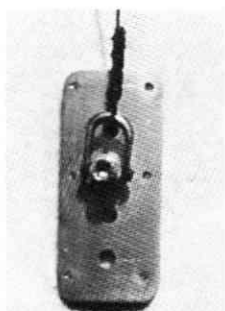

Figure 7-23
5. **Adjustable Gimballed spinner:** Its purpose is virtually identical to the nonadjustable gimballed spinner in that they both provide 360-degree mobility but here the cable is Nico-pressed to the swivel rather than the spinner. The choice of either of these devices is at the F/X person's discretion (Figure 7-23).